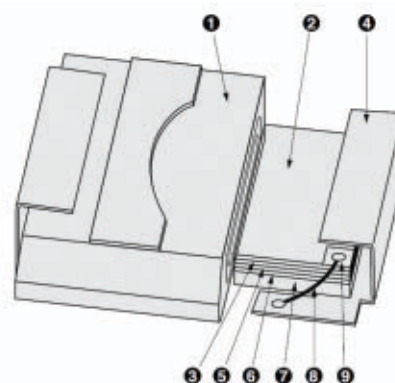

Figure 1: Metal foil resistor construction (source: Alpha Electronics)
Figure 1 shows the construction of a precision metal foil SMT resistor from Alpha Electronics. The outer coating (1) of transfer-molded epoxy resin combines with an extra coating (2) to give high resistance to moisture, heat and solvents. An additional protective layer (3) is above the metal foil (5). The whole assembly is attached with a polyimide bonding layer (6) to a ceramic substrate (7). A gold wirebond (8) connects the resistive element and leadframe (4).
Figure 1. A compact PiezoWalk® motor, optimized for alignment of optics and mirrors provides 10N power-off holding force and smooth motion over centimeters with picometer-class resolution in compact, cost-effective format. (Figures courtesy of PI L.P.)